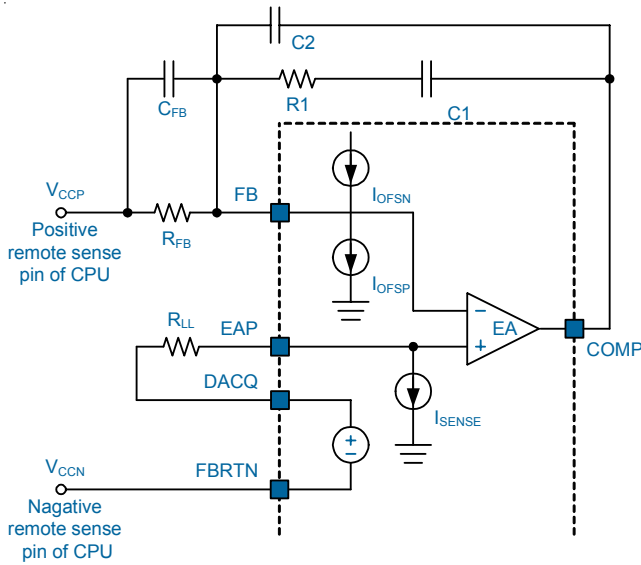
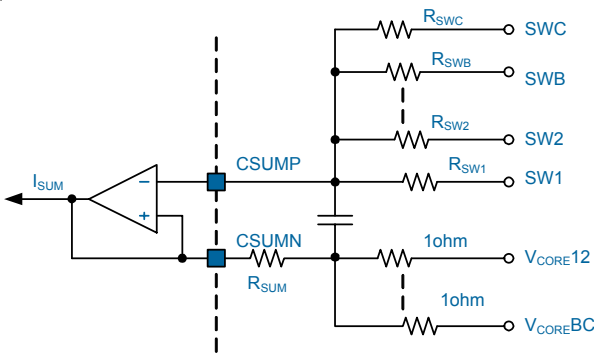

Figure 6. Circuit for V_{OUT} Differential Sensing and No Load Offset
Figure 8. Total Load Current Sensing.
The uP6208 uses differential sensing by a high gain low offset error amplifier as shown in Figure 6. The CPU voltage is sensed between the FB and FBRTN pins. A resistor R_{FB} connects FB pin and the positive remote sense pin of the CPU V_{CCP} . FBRTN pin connects to the negative remote sense pin of CPU V_{CCN} directly. The error amplifier compares $EAP (= DACQ - I_{SENSE} \times R_{LL})$ with the V_{FB} to regulate the output voltage.
In Figure 6, I_{OFSN} and I_{OFSP} are used to generate no-load offset. Either I_{OFSN} or I_{OFSP} is active during normal operation. Connect a resistor R_{OFS} between OFS pin and GND to generate negative no-load offset voltage V_{OFSN} .
The uP6208 provides low input offset current sense amplifier (CSA) to monitor the total load current flowing through inductor as shown in Figure 8. Output current of CSA (I_{SUM}) is used for active voltage positioning (AVP), load current monitoring and over current protection. In this inductor current sensing topology, R_{SW} and C_{SUM} must be selected according to the equation below:
I_{SENSE} in Figure 6 is a mirror of I_{SUM} in Figure 8. I_{SENSE} flows through R_{LL} and makes V_{EAP} equal to $V_{DACQ} - I_{SENSE} \times R_{LL}$. In steady state, output voltage is equal to V_{EAP} . Thus, the output voltage decreasing linearly with I_{OUT} is obtained. The loadline is defined as
A high gain and low input offset error amplifier (EA) is used for the control loop. The positive input of EA is set via the VID logic according to the voltages listed in V_{DAC} table of INTEL VR11/VR10 or AMD K8. This voltage is then shifted by a voltage proportional to total load current for active voltage positioning. The output of the EA is the COMP pin. V_{COMP} is shifted by a voltage proportional to channel current. Then the voltage is compared with internal ramp to generate PWM signal. The negative input (FB) is tied to the positive remote sense pin of CPU through a resistor R_{FB} for sensing and controlling the output voltage. The main loop compensation is incorporated into the feedback network between FB and COMP. A type-3 compensation network like Figure 6 is recommended. The values of R, C in type-3 compensation need complex calculation and fine tune. We simplify the problem by providing a design tool to our customers. Our design tool contains a spreadsheet which can generate the R, C values according to customer's requirement. The design tool does not provide the optimal R, C values but provides a proper starting R, C values for fine tune.